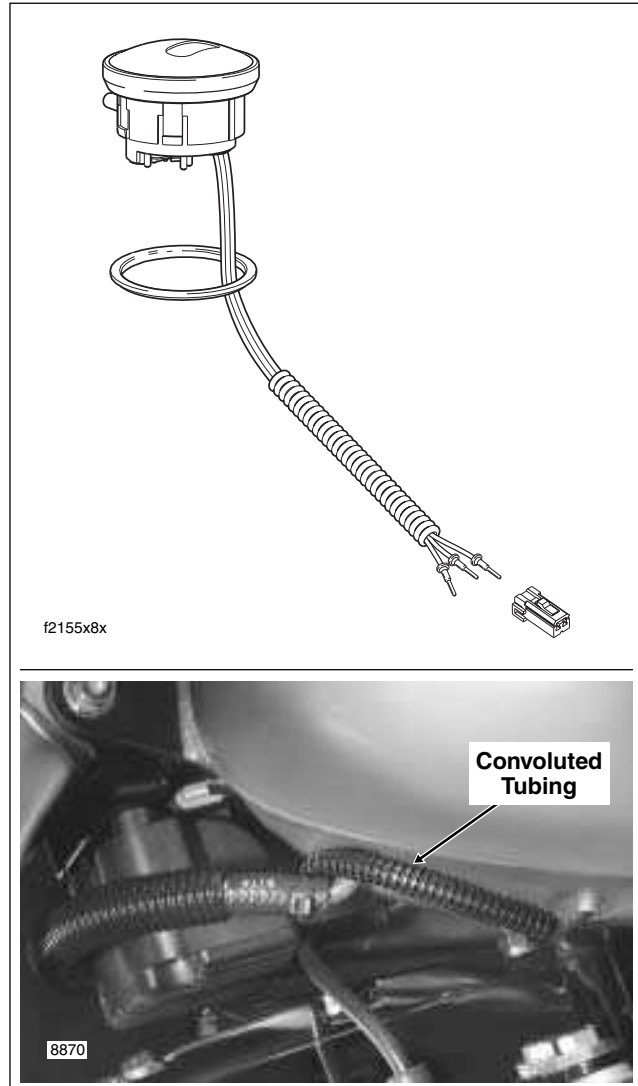

Figure 8-121. Fuel Gauge (FLHR/C/S)
- Route pin housing and convoluted tubing forward and then inboard between front of crossover hose fitting and bottom of fuel tank. Connect fuel gauge connector [117], 4-place Multilock. Feed connector into tunnel of fuel tank. See lower frame of Figure 8-121.